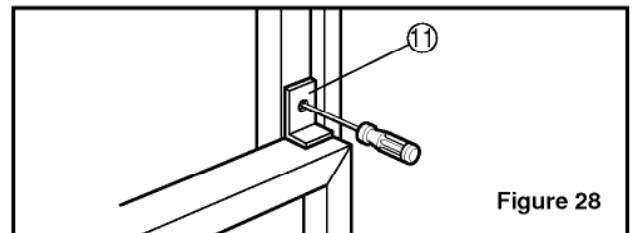

Figure 28
12. Attach the window locking bracket ⑪ with a type C screw. (See Fig. 28)